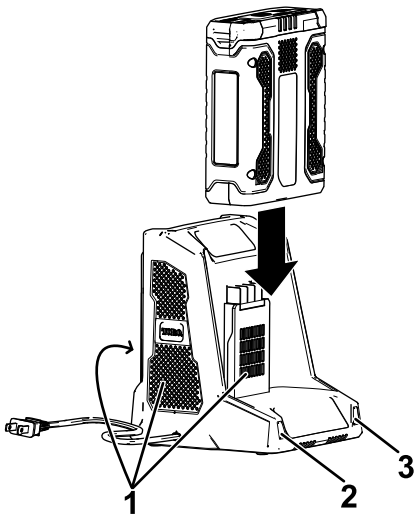

Figure 5
4. Slide the battery pack into the charger until it is fully seated (Figure 5).